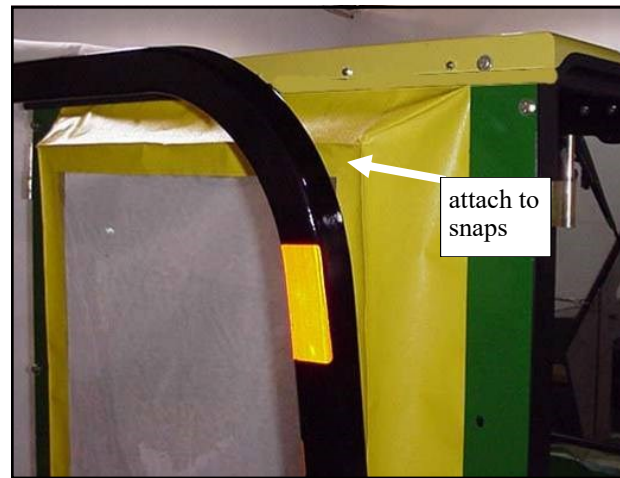

Fig. 13.3 Soft side rear curtain
**13.3** Attach the top of the rear curtain to the newly installed snaps. See fig. 13.3.